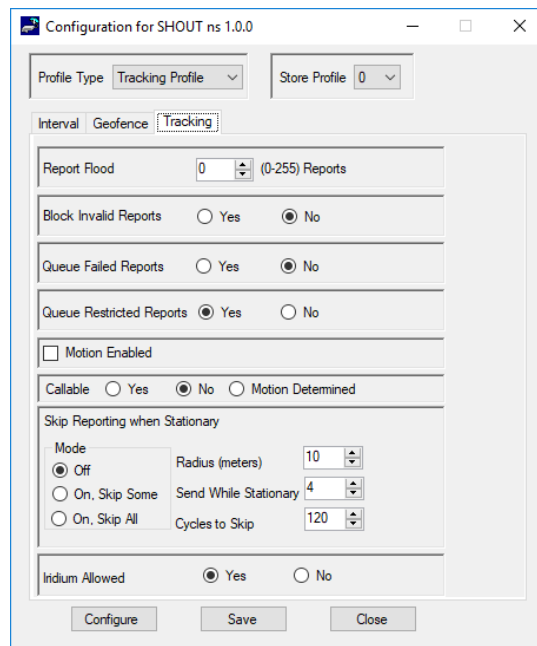

Figure 16: Tracking Profile Window with Tracking Tab
3. Select the *Store Profile* number (see **Figure 16**).